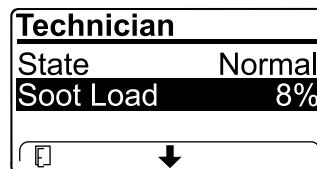

Figure 62
- View the soot load which is measured as the percentage of soot in the DPF (Figure 62); refer to the soot-load table.